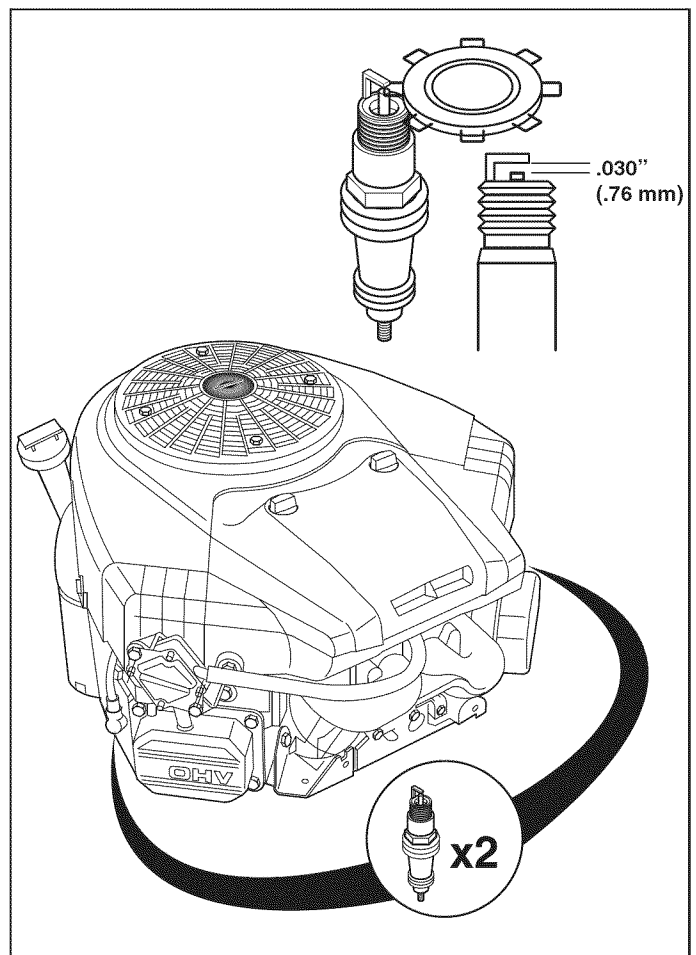

Figure 20. Spark Plug Gapping
2. Clean the area around the spark plug (see Figure 20).